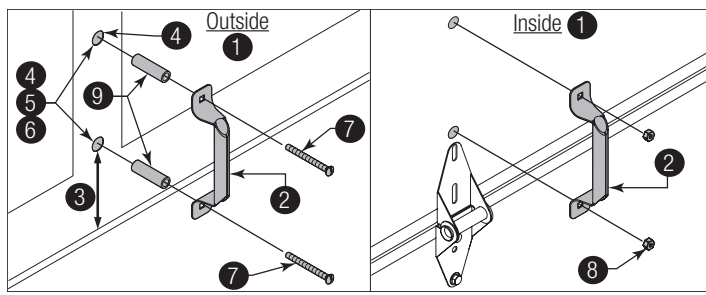

Figure 21
**See Figure 21 for the following steps.**
- 9e. Assemble both the outside and inside lift handles to the section using (2) 1/4" - 20 x 2-1/2" carriage bolts 7, (2) 1/4" - 20 hex nuts 8 and (2) spacers 9.